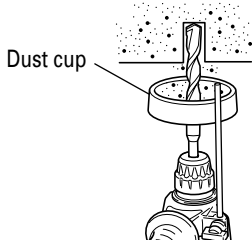
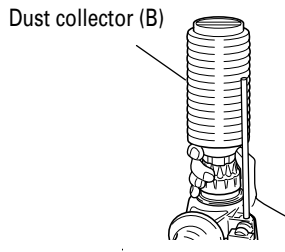

Fig. 4
Fig. 5
7. Installation of dust cup or dust collector (B) (Optional accessories) (Fig. 4, Fig. 5)
- When using a rotary hammer for upward drilling operations attach a dust cup or dust collector (B) to collect dust or particles for easy operation.
Use the dust cup by attaching to the drill bit as shown in Fig. 4.
- Installing dust collector (B)
- When using dust collector (B), insert dust collector (B) from the tip of the bit by aligning it to the groove on the grip (Fig. 5)